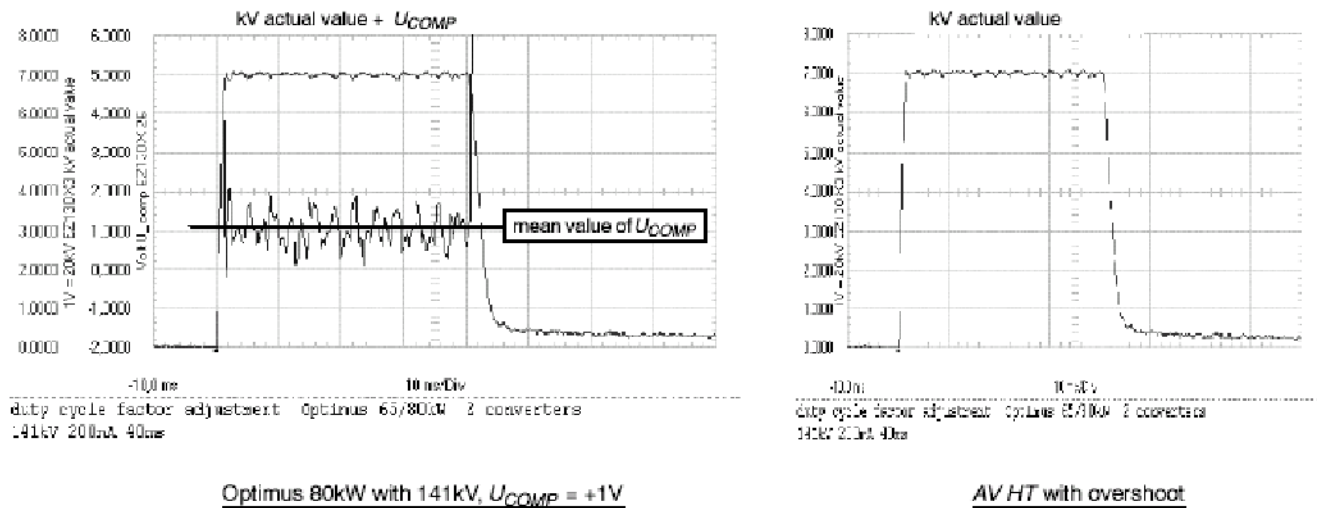

figure 5
- Check also the kV peak value *AV HT* (not the overshoot), it must be **138kV** for **141kV** setpoint. (see scope figure 5)